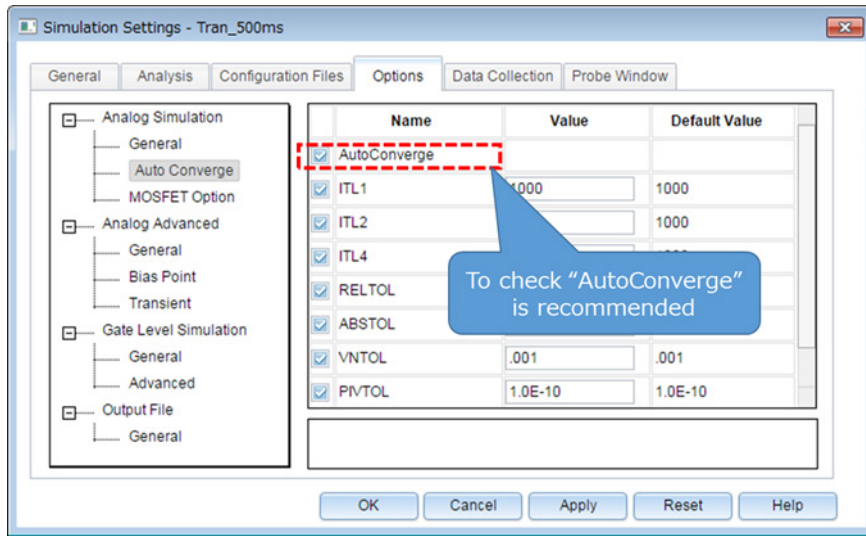

Figure 5.4 Simulation Settings - Options dialog box
- Click the **Options** tab to choose analysis options. For the simulation of our model, it is recommended to check **Analog Simulation - Auto Converge - AutoConverge** as shown in Figure 5.4 to enable the automatic convergence feature.